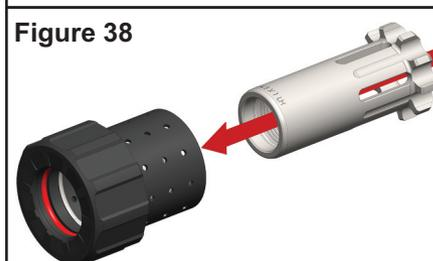

Figure 38
2. Insert the piston into the piston housing assembly. See Figure 38.
3. Insert the piston into the piston housing assembly. See Figure 38.